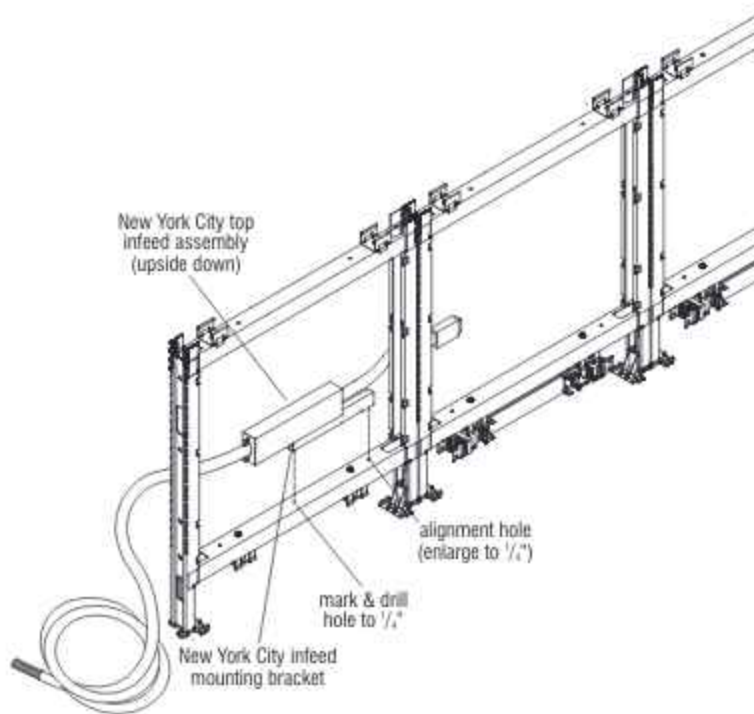

Figure 17 - New York City Top Power Infeed
1. One mounting hole must be marked then drilled, and another must be enlarged for mounting of the New York infeed mounting bracket to the lower horizontal frame rail. To create mounting holes, first position the New York City top power infeed assembly upside down on the lower horizontal rail as illustrated and align the mounting hole of the bracket to the pre-drilled hole closest the frame side rail. Be sure the infeed assembly is centered onto the horizontal rail using the New York City infeed mounting bracket as a guide and mark the second mounting hole to the lower horizontal rail. Drill a hole  $\frac{1}{8}$ " diameter at the second marked location. At the first alignment hole location, drill the  $\frac{11}{64}$ " hole out to  $\frac{1}{4}$ " (Figure 17).